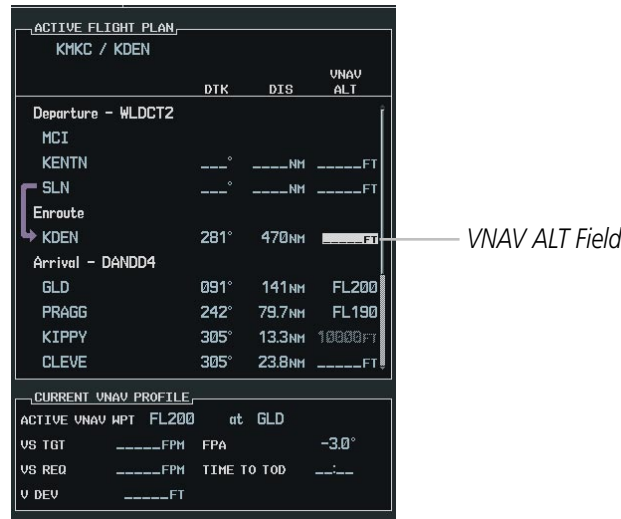

Figure 5-73 Entering an Altitude Constraint
- 2) Highlight the desired waypoint altitude field (Figure 5-73).